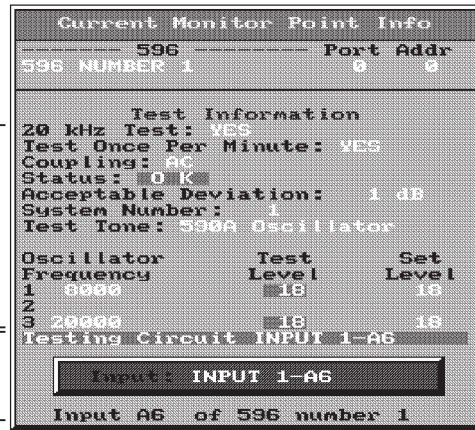

Figure 28 - System Test Menu
To perform a circuit test, in the System Test menu, press the function key associated with the 'Circuit Test' function. Since the test requires that test tones will be turned on and that the system will be busy during the test, a confirmation window appears with the prompt 'OK to turn on Test Tone? (Y/N) :'. Type 'Y' to continue, or 'N' to abort the test, then press 'Enter'. If 'Y' is entered, a frequency selection window appears containing the prompt 'Select Frequency Number (1, 2, 3) :'. The numbers correspond to the test frequencies set up for the circuit which are listed by number in the 'Current Monitor Point Info' block on the screen. See figure 28 and figure 1, item 1. Type a frequency number, then press 'Enter'. A circuit selection list window appears.